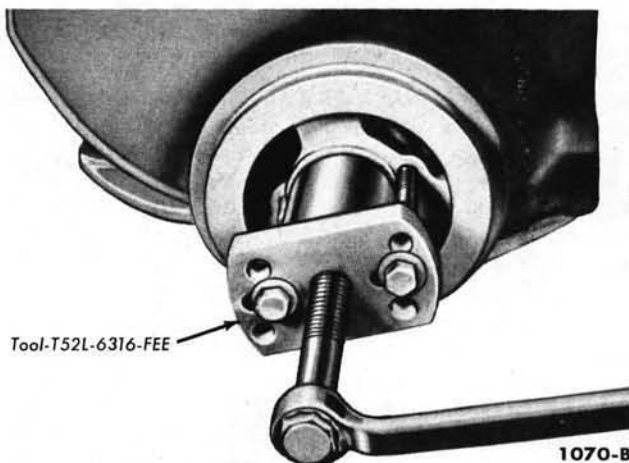

FIG. 23—Damper Removal
4. On all models, remove the cap screw and washer from the end of the crankshaft, then remove the damper (Fig. 23).